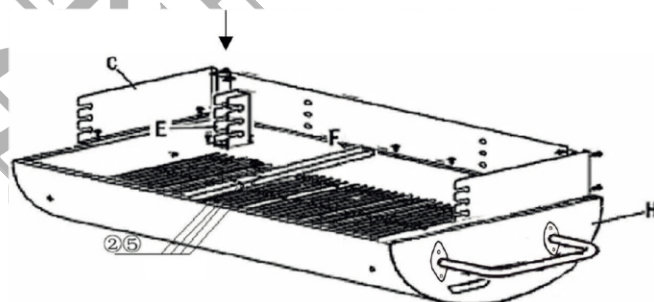

Fig. 6
8. Secure the grill holder (E) to the grill support bar (F) using bolts (2) and nuts (5). **(Fig. 6)**